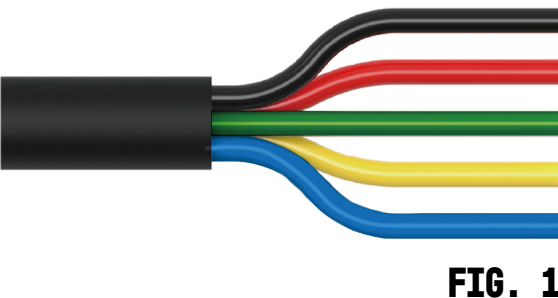

FIG. 1
The bracket installation location can refer to Figure 1.
(Figure 1)
3. Connect the **BLUE** or **YELLOW** or **GREEN** wire to the desired upfitter switch relay. See FIG. 1 for individual ACC wire function. When the upfitter switch is activated, that light and pattern will trigger.
1. See FIG. 1 for individual ACC wire function.